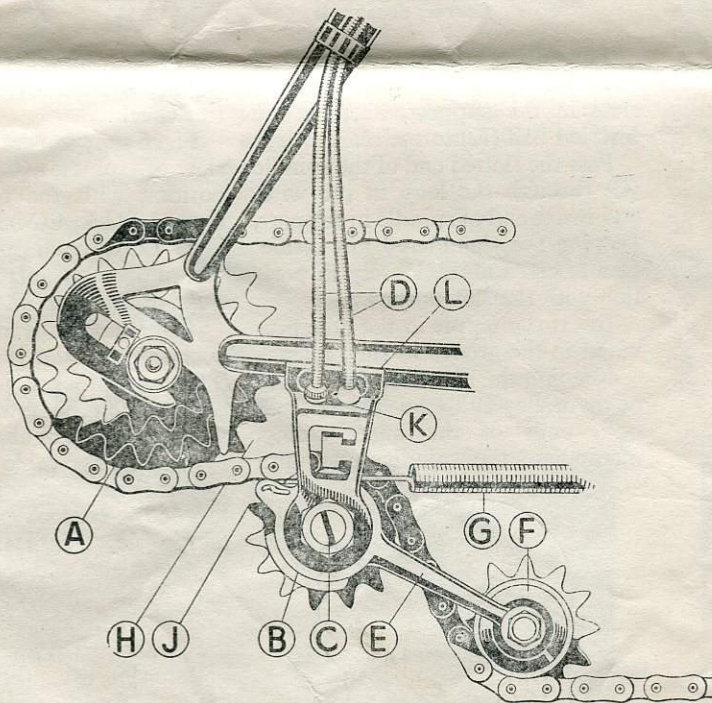

Fig. 3
Where the clip-on type of support (L) is used, place the support well to the rear, with just sufficient clearance to allow for wheel removal when forward opening drop-out is concerned, or if the fork-ends are rear-opening with sufficient clearance between (H) and (J); fig. 3. When the chain is running on the big sprocket and the hub spindle is in its proper place at the front of the fork-end slots, the clearance between the low gear sprocket and the jockey cog must be as close as possible, the correct distance of the slotted spindle (C) depends on the size of the largest sprocket; see fig. 3.